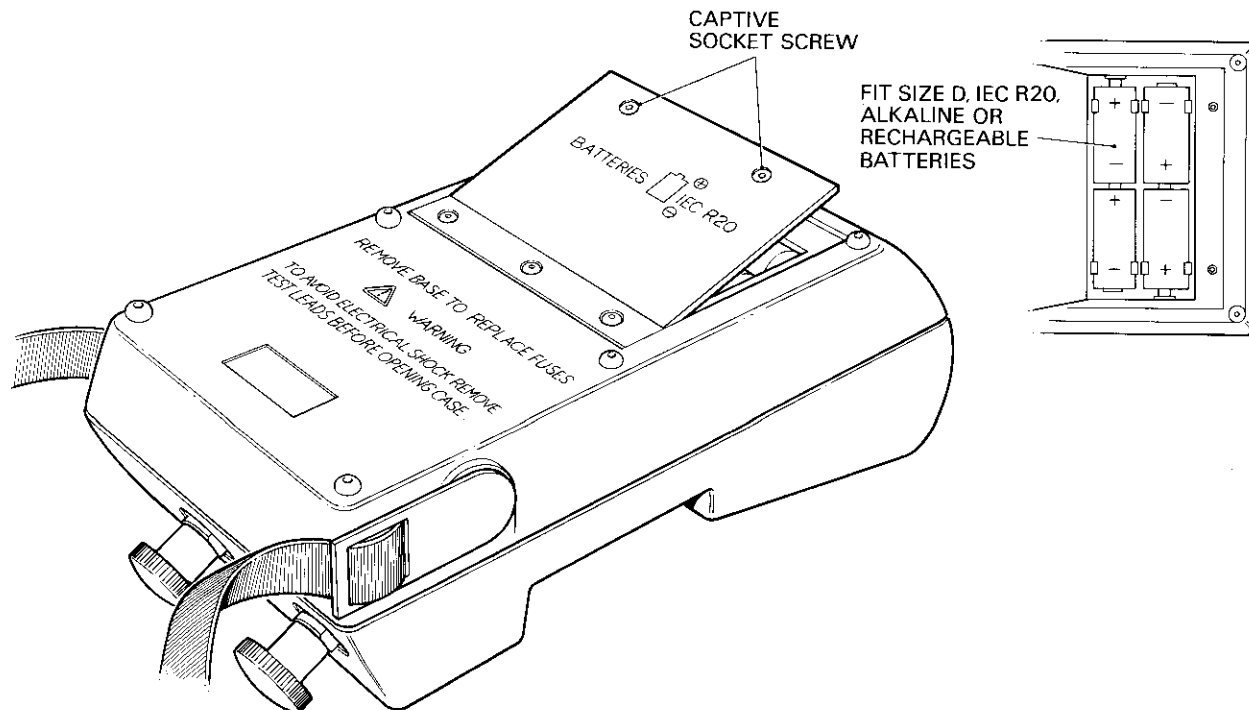

Figure 2.1 - Battery Compartment
#### 2.1.1 Fitting Batteries (Figure 2.1)
To fit the batteries, refer to Figure 2.1 and proceed as follows.
- Fit the batteries as shown in Fig 2.1 observing the polarity indicated.